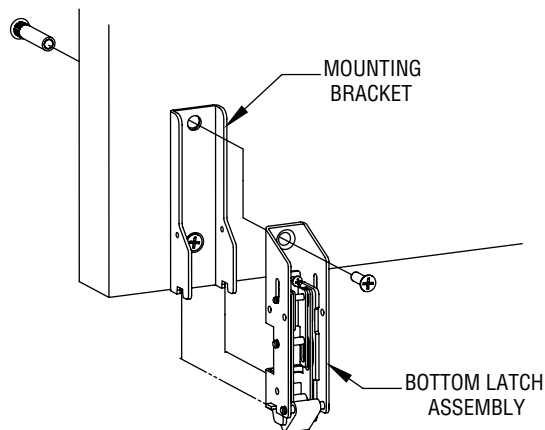

FIGURE 1
- A. Install bottom latch assembly to bottom latch bracket using provided screw and bottom two slots in bracket (see Figure 1).
- 1/4" - 20 flat head machine screw (3)
- #12 flat head wood screw (3)
- A. Thread top rod half-way onto top latch threaded connector (see Figure 1).
- B. Use the provided machine screw to attach rod connector onto actuating block, but do not attach top rod and rod connector yet. Align the edge of rod connector next to top rod and mark a cutting line on top rod. Be sure the top latch is not actuated and exit device push bar is not depressed (see figure 1).